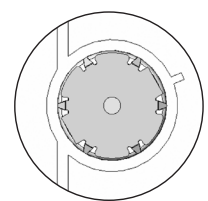

Figure 8
- Install Cover Insert (P/N 705002), Figure 8. Press the insert into the cover using even pressure. The insert is designed to prevent spline key movement. Once installed do not attempt to remove the insert. Remove the back cover to service the lock; this will not void the factory warranty.